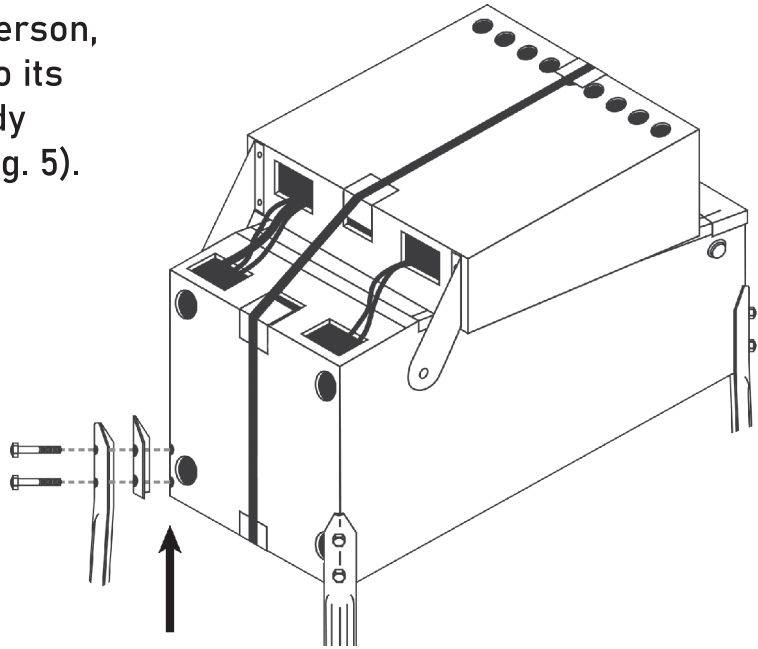

Fig. 5 Elevating rear cabinet and installing rear legs
- 7 With the help of at least one other person, carefully stand the cabinet body onto its front legs. Keep the rear cabinet body elevated and install the rear legs (Fig. 5).